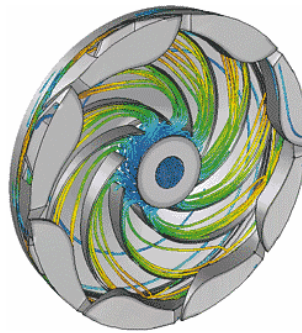

Figure A.3.2: Flow in a Centrifugal Fan
- **HVAC:** Simulation of an air-conditioning system for a stadium, prediction of air-flow around buildings, flow field in a fan (Figure A.3.2).